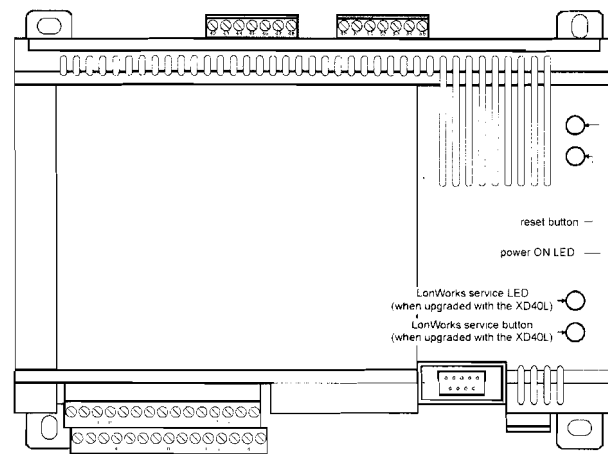

Fig. 1. The XL40A1
- six analog inputs, four analog outputs, and eight digital inputs all arranged in a single, low-voltage, double-decker terminal block located at the left side of the front of the housing (see Fig. 1), and also